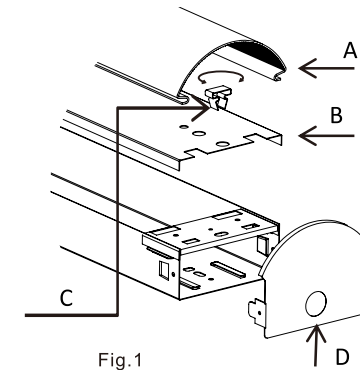

Fig.1
7. Install the diffusers. (Fig 1)